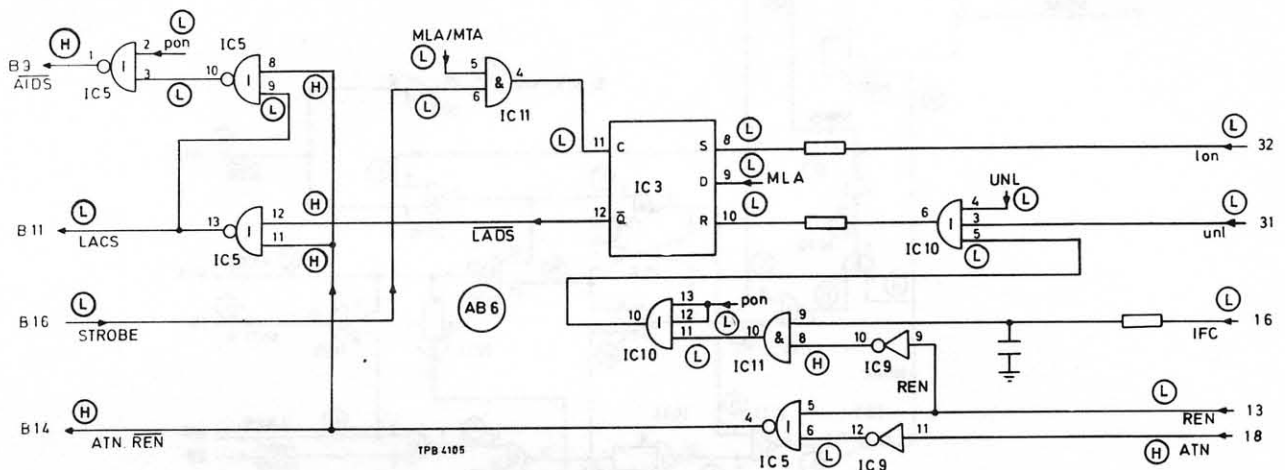

Fig. 9 'Listener addressed latch fault' logic levels
(1) Place AB6 on extender board. Set analyser to TALK and check REN and ATN are at 1. Set DIO lines to MLA and press EXECUTE.
(2) Set DIO lines to 00111111 (UNL) and press EXECUTE.
(3) Check logic levels agree with those shown in Fig. 9.